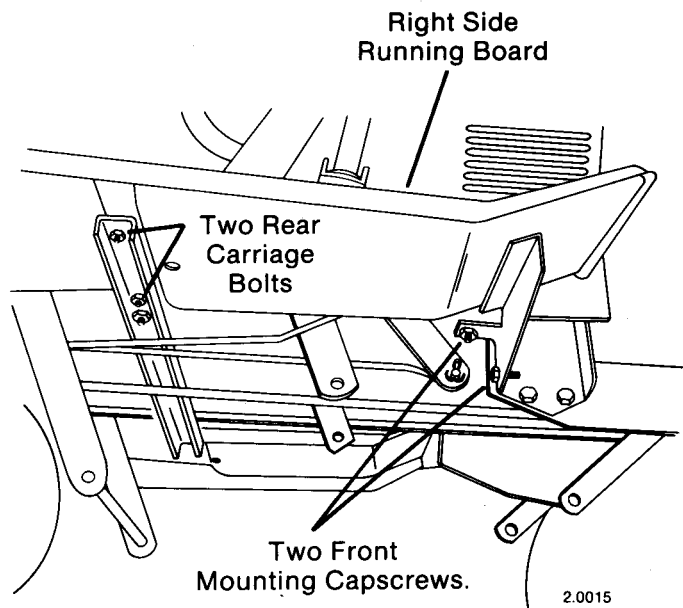

FIG. 64
- B. Remove right side running board by removing two capscrews securing inner front corner of running board to main frame along with two rear carriage bolts. (Fig. 64)